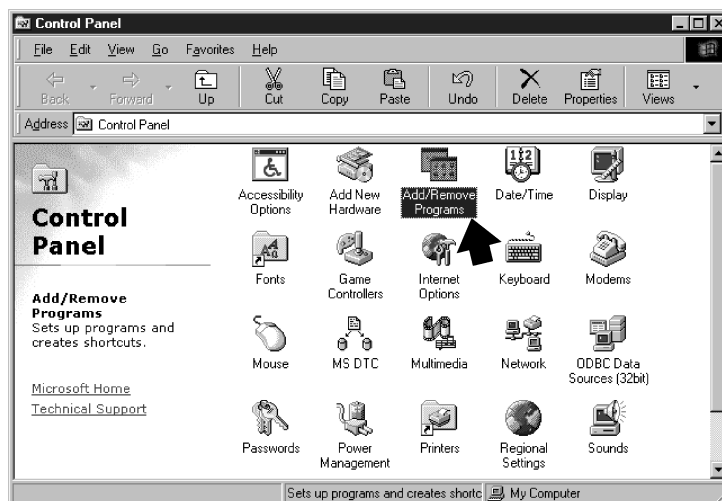

Fig. 66
3. In the Control Panel dialog box, double-click **Add/Remove Programs**. (Fig. 66)